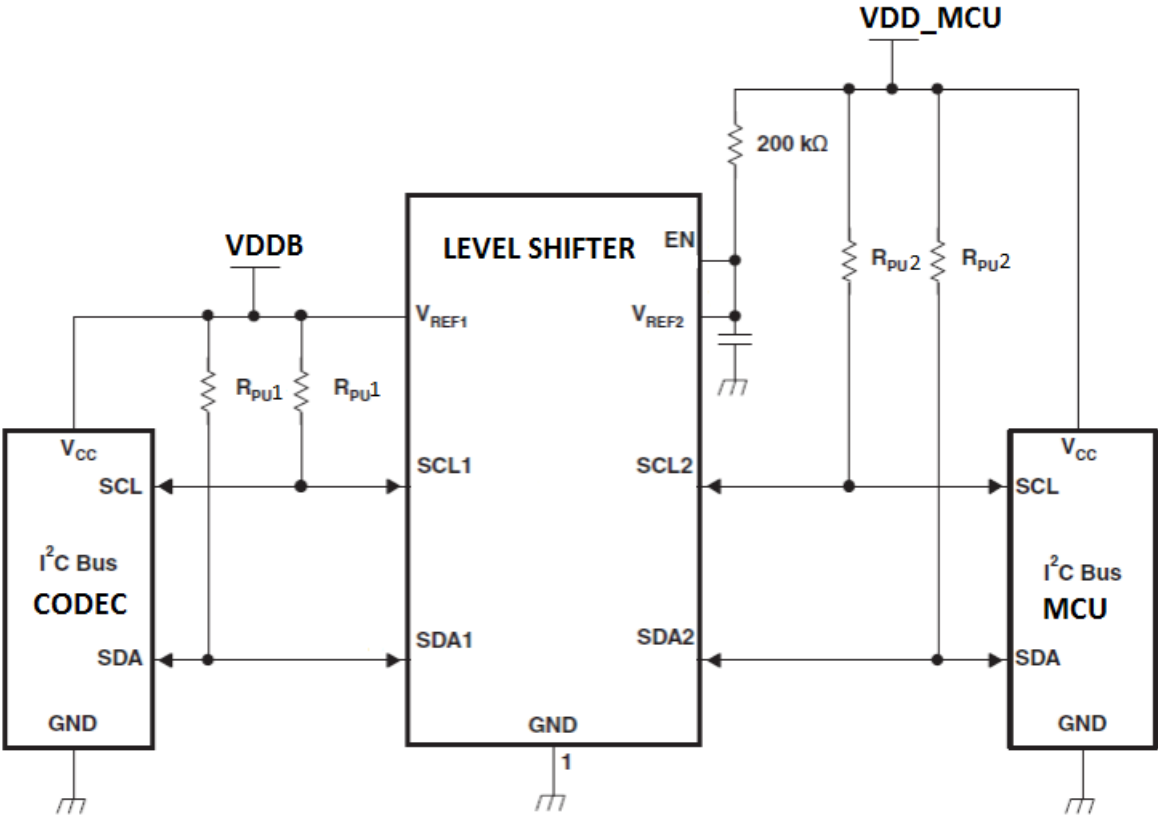

Figure 20: Typical I2C level shifter circuit
- Sometimes, I2C needs to use level shifter between different supplies domains. During Acknowledge, receiver side (CODEC) will pull low, and transmit side (MCU) is disable and pull high by pull high resistor. Because NAU88L21 SDIO can sink 2mA by default setting (maximum up to 8mA,) shown as below Figure 20, R_{PU1} and R_{PU2} need to be select such that total current $V_{DDB}/R_{PU1} + V_{DD_MCU}/R_{PU2}$ during Acknowledge should not be too large to exceed SDIO sinking capability.